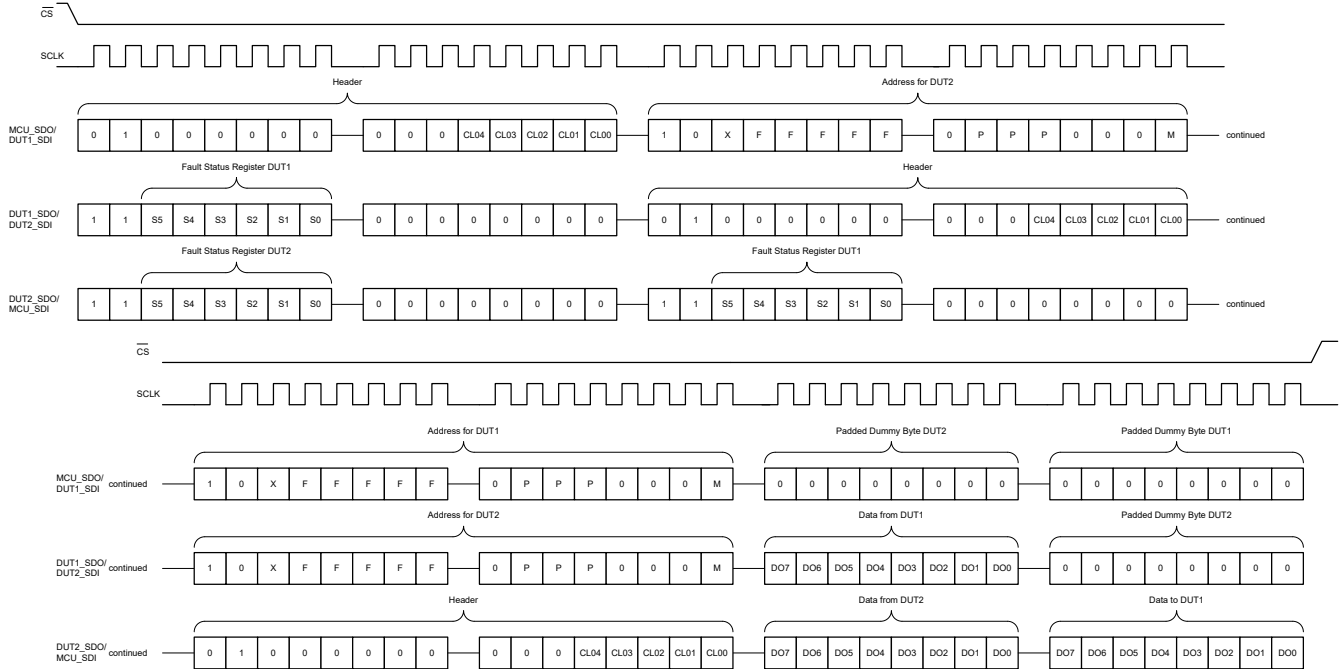

Figure 7-12. SPI Daisy Chain Read
Figure 7-12 shows an example of a daisy chain read for two devices in daisy chain. The header byte is transmitted with the chain length (CL) value of 2, followed by the address for DUT2, DUT1 and then the 8-bit dummy data-in for DUT2, DUT1. As the first device shifts the data out, the device transmits the status segment, followed by the original header, address for DUT2, data-out from DUT1 and dummy data-in for DUT2. The final device in the chain sends the status, followed by status for DUT1 and finally data-out for DUT2, DUT1.